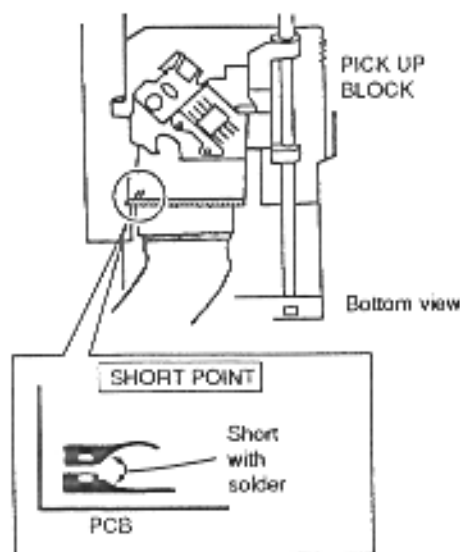

Fig. 3-2
2) Short the circuit on the PICK UP BLOCK with solder as shown in Fig. 3-2.